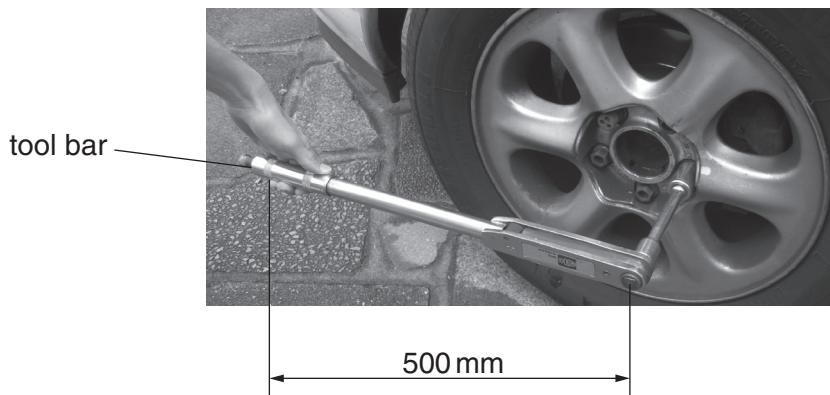

Fig. 7
- 3 Fig. 7 shows a torque wrench.